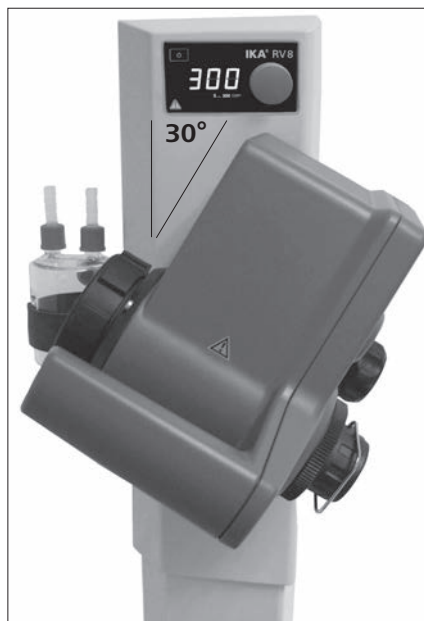

Fig.13
7.) Set the drive at an angle of approx. 30°. (Fig. 13)